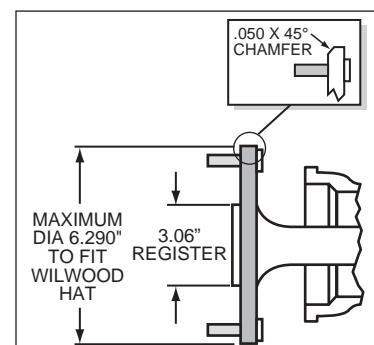

Figure 3. Axle Flange Maximum Dimension
- Maximum axle flange diameter must be no larger than 6.29" with a .050" x 45° chamfer (see Figure 3).